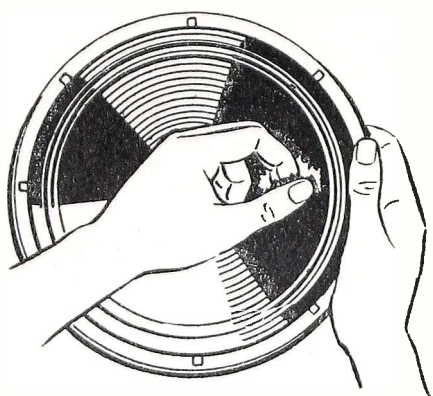

Fig. 1—Remove old cone and voice coil assembly.
the equalization applied at the transmitter—is measured in microseconds, and a value of 75 μ sec is specified by the FCC. Presumably all stations are operating under these standards. This pre-emphasis provides a response curve which rises gradually from the middle range up to a boost of 10 db at 6,700 cps, and of 15 db at 12,000 cps, as shown at (A) in *Fig. 1*.
Fig. 1—Frequency response of FM transmitter at (A), showing pre-emphasis; of FM tuner at (B) showing de-emphasis; and sum of two curves giving flat response, (C).